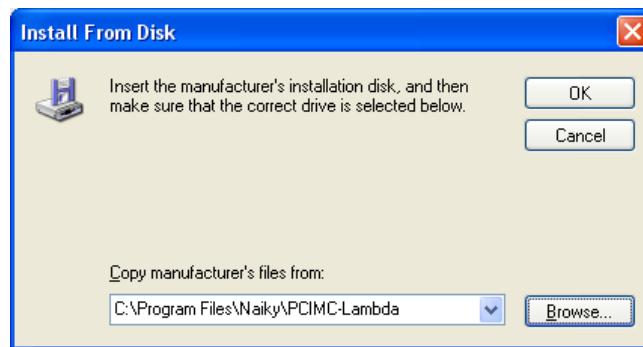

Fig. 3-6 Find driver location—4
- 6) After selecting the corresponding driver file, click “Open” to return to the previous page, showing the file directory under “Copy manufacturer’s files from”, as shown in Fig. 3-6.